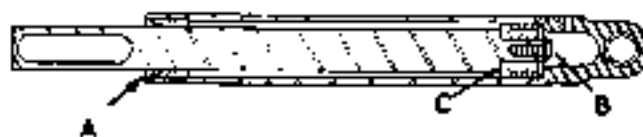

FIGURE G-19 - Screenshot Hoist Cylinder
3. Remove internal retaining ring (A), and stuffing box, Figure G-19.
5. Clamp the cylinder rod in a vise equipped with soft copper jaws to avoid marring of the fine finish of the rod. Remove the capcrew (B) which retains the piston (C) on the end of the rod. Remove the "V" packing from piston. Remove leather back-up washer and "O" ring from piston being careful not to cut or abrade rubber "O" ring. If internal leather back-up washer shows no evidence of being oil soaked, the "O" ring has sealed properly and the backup washers and "O" ring may be replaced carefully (one back-up washer on each side of "O" ring).
7. Replace internal retaining ring (A), Figure G-19.
8. Replace pins (A) and cap screws.